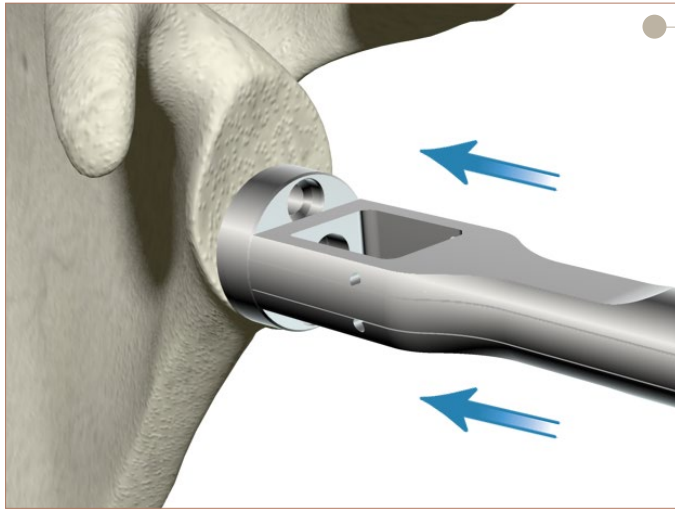

Figure 30
- ▶ Apply an axial force towards the face of the glenoid [Figure 30] while holding the Baseplate Holder firmly in place to prevent rotation of the Glenoid Baseplate.